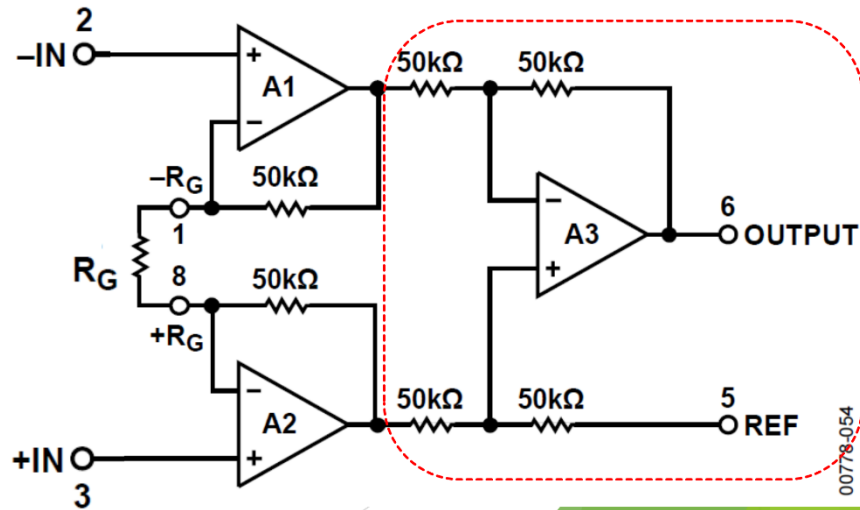

Figure 3. Simplified schematic for AD623 instrumentation amplifier. The two inputs are labeled +IN (pin 3) and -IN (pin 2), respectively.
- The *instrumentation amplifier* was invented to solve the issues enumerated in #3 above. This configuration got its name because it was so useful for measuring signals from a variety of lab instruments—strain gauges, temperature gauges, biomedical equipment, etc. Figure 3 shows the internals of an AD623 instrumentation amplifier.